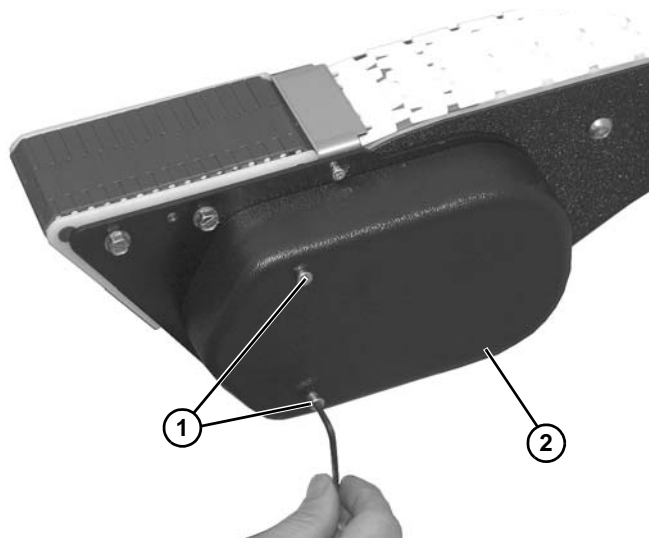

Figure 157
1. Remove two socket head screws (**Figure 157, item 1**) and cover (**Figure 157, item 2**) from power transfer assembly.